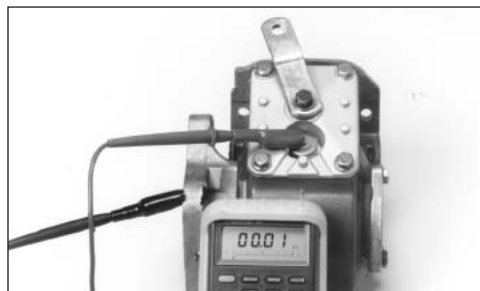

Fig. 24
3. Actuate shifting device and the meter or light* should be actuated when P.T.O. gear is engaged (Fig. 24).